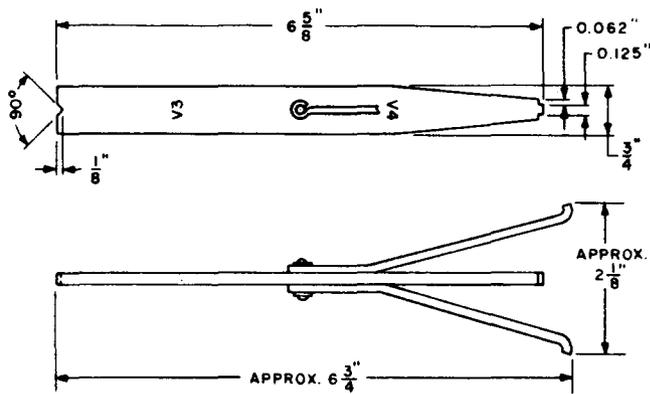

Fig. 7—602D Amplifier Extractor Tool
**2.07 602D:** The 602D amplifier extractor tool (Fig. 7) is used in removing the plug-in amplifiers associated with V3 and V4 repeaters from their shelf mountings. The tool consists of a bar having two swivel hooks which are intended for insertion into the holes provided in the lugs of amplifiers. The ends of the bar are notched to provide a brace against the repeater shelf when removing the amplifier. The 602D replaces the 602C extractor.